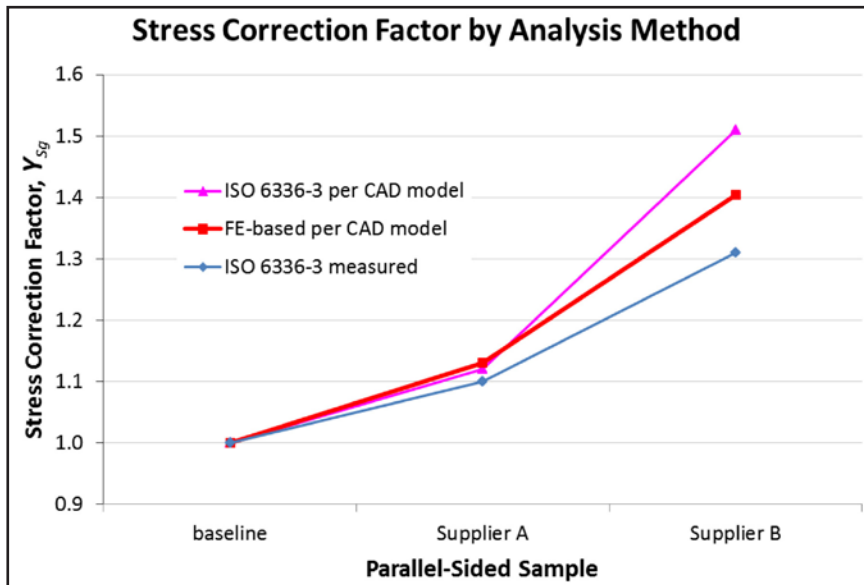

Figure 6 Stress correction factor as function of analysis method.
To account for these two factors a different approximation methodology is needed. A finite element (FE) method was chosen to represent the geometry for the as-hobbed condition, and the geometry inputs for this FE model were taken directly from the hob tool manufacturer’s CAD rollouts. The FE analysis was completed for hob tool designs from Supplier A and Supplier B and compared to a baseline FE model without generating scallops. In this way an FE-based stress correction factor could be calculated as a variation above a baseline tensile stress state. The results of the calculated stress correction factors are shown in Figure 6.